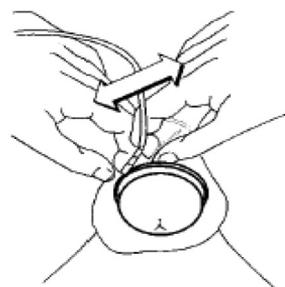

Fig. 5-1B
3. With the other hand, grasp the quick release tab and pull it sharply until the two ends of the loop come apart. (See Figure 5-1B)